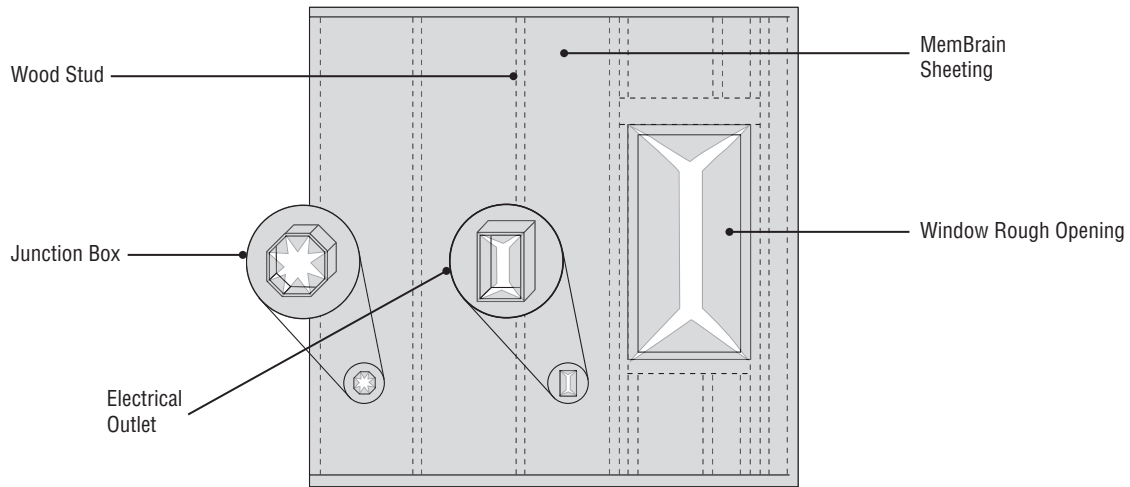

Figure 7: Cut MemBrain sheeting to tightly fit penetrations.
- Cut and fit the MemBrain sheeting tightly around the penetrations. (See Figure 7.)
## Window and Door Treatment – Figures 7 through 10
- Slit the film at the corners. (See Figure 7.)